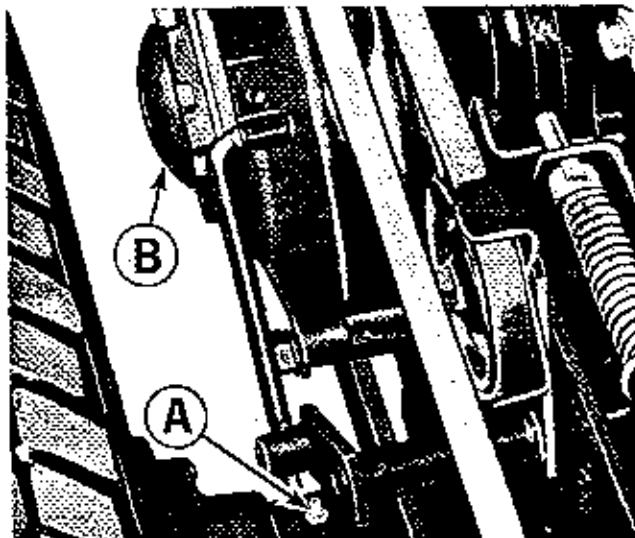
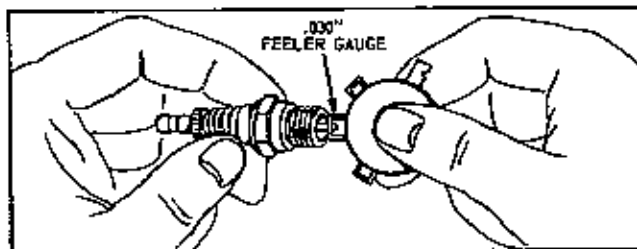

Figure 27. Grease zerk on right rear axle.
Figure 34. Setting spark plug gap.
Right Axle	Figure 27, Item A
1. See figure 27. Remove cap (B) by prying off with a screwdriver.
3. Replace the cap (B).
**CLEAN AND REPLACE SPARK PLUG:** See figure 34. Every 100 hours the spark plug should be removed, cleaned, and the gap reset at .030". When the spark plug is worn out, replace it with AC GC 46, Autolight A 71 or Champion J-8. **CAUTION: BLAST CLEANING OF SPARK PLUGS IN MACHINES THAT USE ABRASIVE GRIT IS NOT RECOMMENDED. SPARK PLUGS SHOULD BE CLEANED BY SCRAPING OR WIRE BRUSHING, AND WASHING WITH A COMMERCIAL SOLVENT OR GASOLINE.**